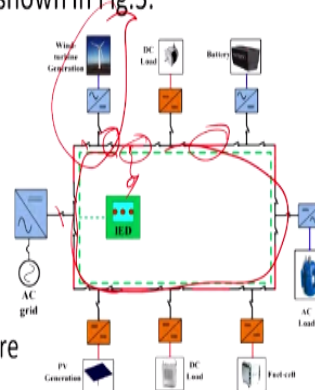

Fig.3 Ring bus architecture of DC microgrid.
- This configuration consists of two or more paths between the AC grid interface and the customers as shown in Fig.3.
In this configuration consists of the two and more path the AC grid interface and the consumers shown in figure 3, this is the figure 3, and when a fault is encountered in any of the buses, the intelligent controller IED first detects and isolates the fault bus from the system and then provides an alternate path to supply power to the customer, and that is always possible here and thus it has got huge redundancy and fault tolerant capability, this network.